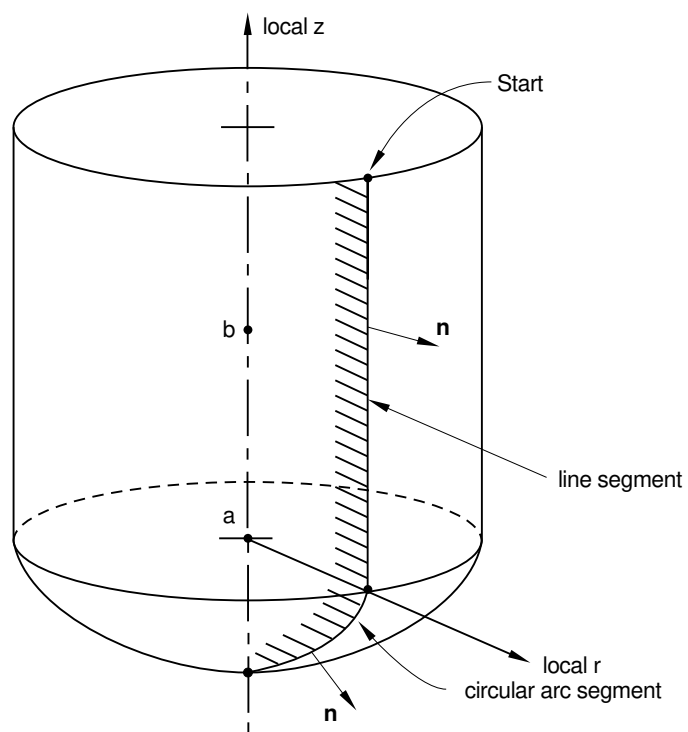

Figure 2: *RIGID SURFACE, TYPE=REVOLUTION.
1. Global X-coordinate of point a , the origin of the local (r, z) system (see Figure 2).